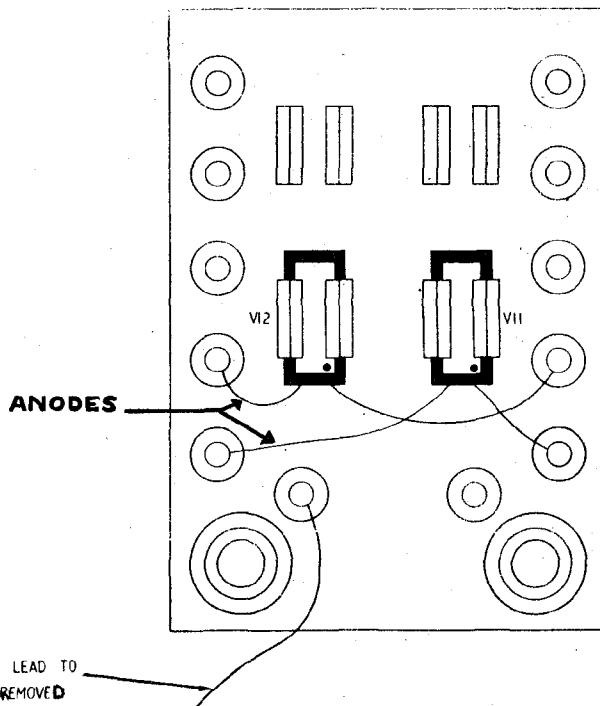

Fig 1 - Scrap layout diagram, showing modified V18 and V19 locations
- (3) The green lead from terminal 4 of terminal block E.
- (4) The brown lead from terminal 8 of terminal block E.
- (5) The black lead from the earth terminal adjacent to resistor R51 (Page 1017, Fig 2512, Issue 2, grid ref E6)
- h. Fit the two semi-conductor devices supplied, one into the inner clip of V11 and the other into the inner clip of V12, as shown in Fig 1.
with a $\frac{3}{8}$ in. length of pink sleeving and solder them to the discriminator terminals indicated in Fig 1. A heat shunt (see Tels A 522 para 5-6 and Fig 1) must be used on the leads while soldering, using the minimum of heat consistent with good joints.
k. Cut the anode lead of the V11 diode and the cathode lead of the V12 diode each to a length of $1.\frac{3}{8}$ in. and fit each with a $1.\frac{1}{8}$ in. length of pink sleeving. Solder these two leads to the terminals indicated in Fig 1, taking the same precautions as previously while soldering.
l. Unsolder and discard the brown lead which is connected to a terminal of the discriminator unit adjacent to the bottom end of the inner clip of V12 (see Fig 1)